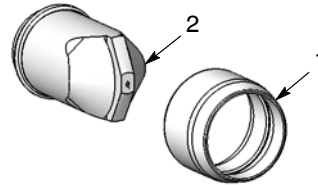

Figure 22 Nozzle and Retaining Nut
2. See Figure 22. Unscrew the nozzle (2) from the retaining nut (1).